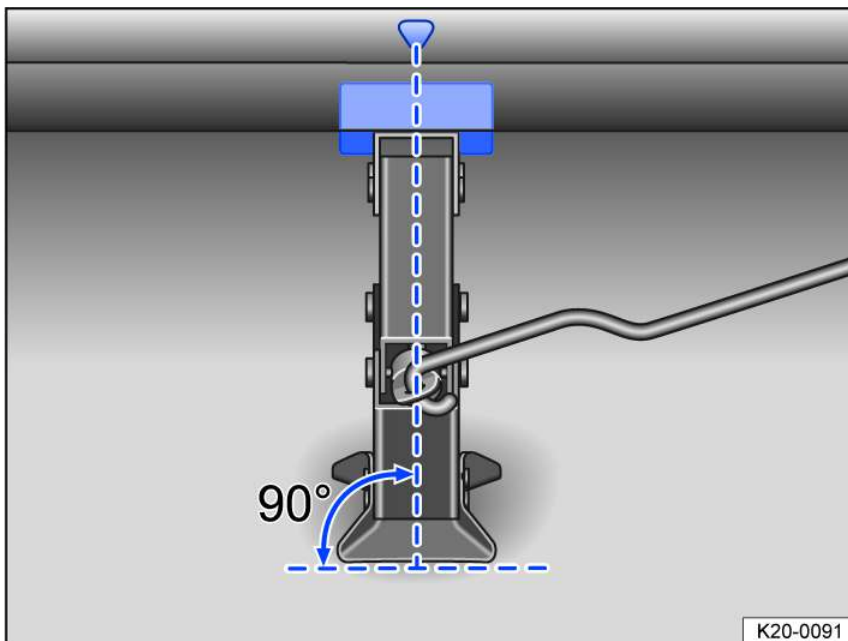
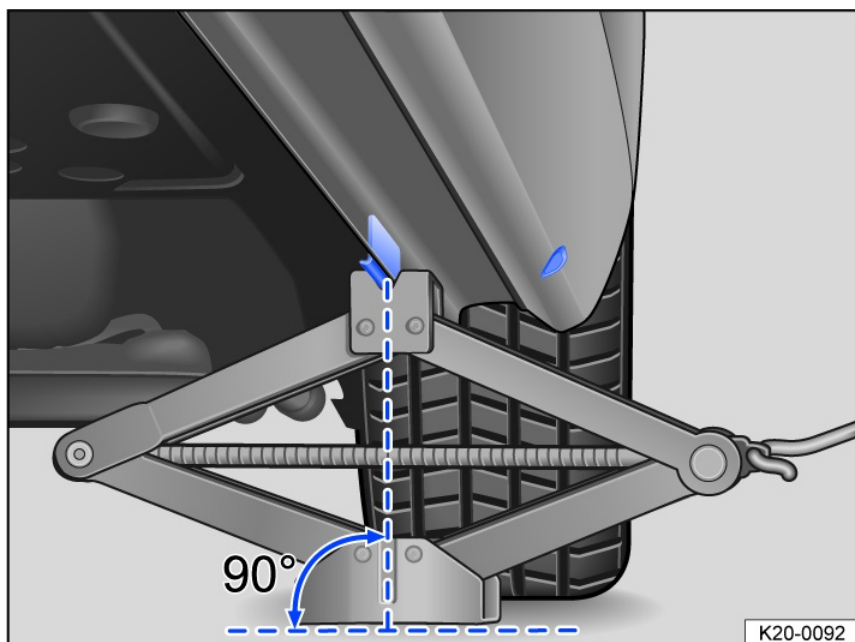

Fig. 159 Correct jack setup.
Fig. 160 Jack is positioned on the left side of the vehicle at the rear.
11. Make sure the entire base of the jack is seated securely on the ground and that the base of the jack is located exactly directly below the lift point *fig. 159* and *fig. 160*.
12. Straighten the jack and continue cranking the claw on the top of the jack upward until the claw is positioned on the jacking point under the vehicle *fig. 160*.
- Only place the vehicle jack at the lift points described. The bracket on the vehicle jack must firmly grip the sill *fig. 160*.